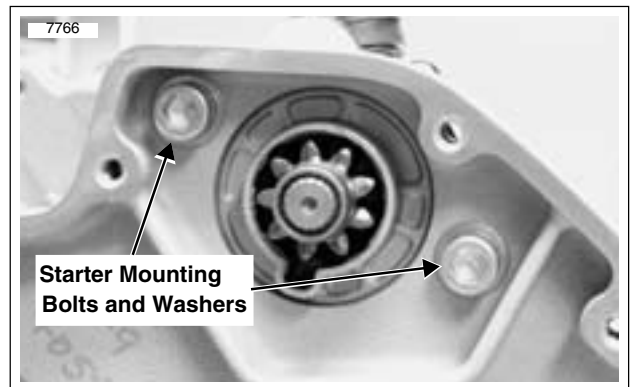

Figure 5-10. Starter Mounting (Primary Side)
7. See Figure 5-10. Remove both starter mounting bolts and washers.